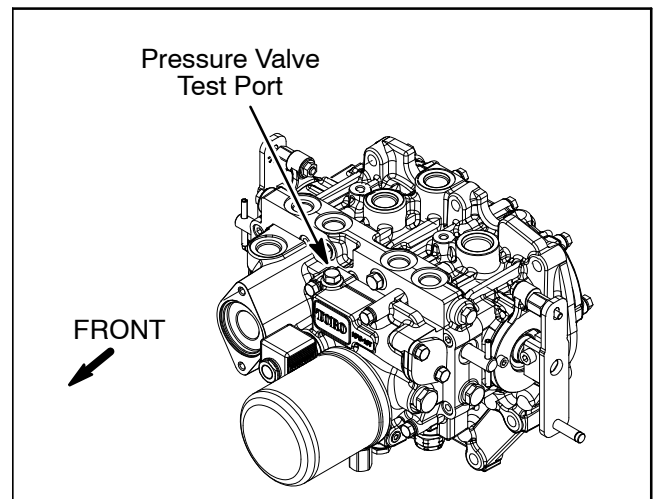

Figure 35
4. Thoroughly clean transmission area surrounding pressure valve test port (Fig. 35).
5. Remove plug from pressure valve test port (Fig. 35). Connect hydraulic pressure gauge (1000 PSI / 70 bar) with an attached hydraulic hose to the test port.